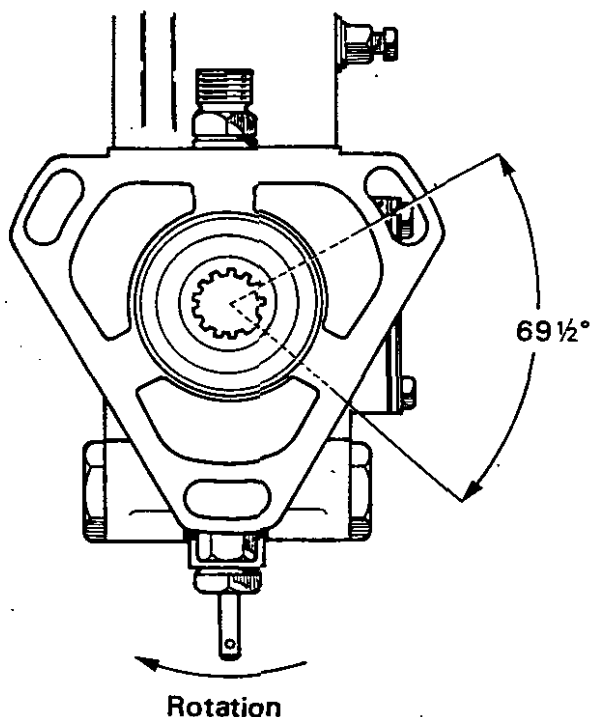

Figure 16. SETTING THE INJECTION PUMP
3. Measure $69\frac{1}{2}^{\circ}$ from the blank spline by means of the scale on the tool and mark the pump flange (Fig. 16).